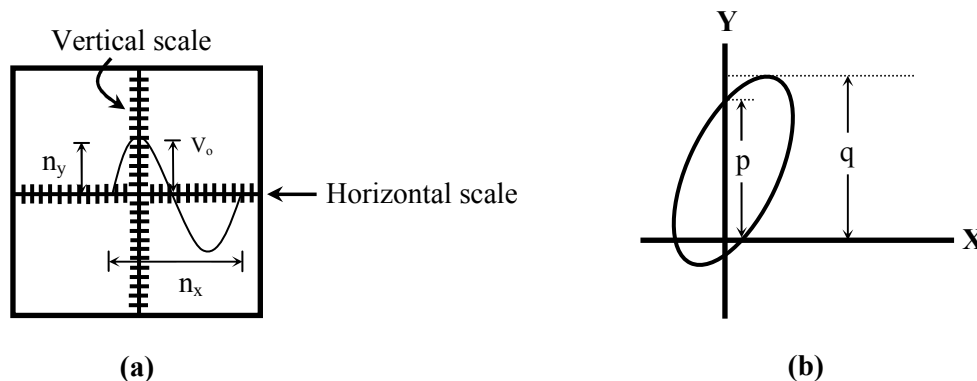

Fig. 5
- (iii) A waveform shown in Fig. 5(b) is obtained. Measure p and q by noting number of divisions on vertical scale and then by multiplying by Volt/Div value.